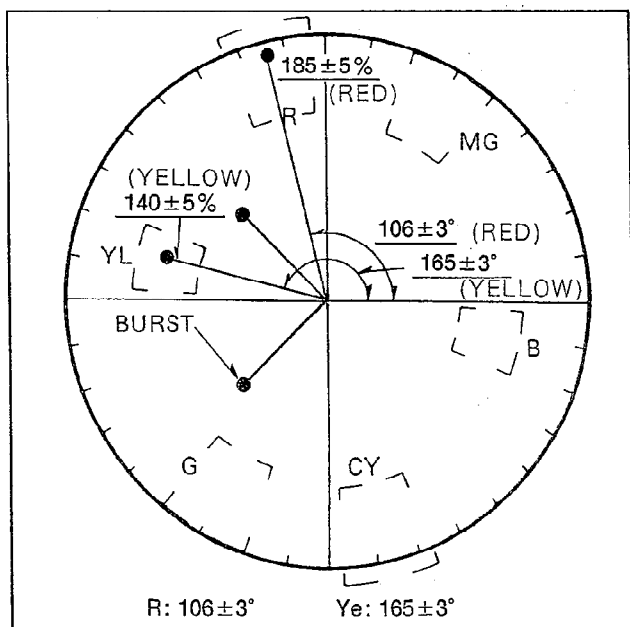

Fig. C32
16. Repeat the 3 to 15 until vectors become within spec as shown in Fig. C32.